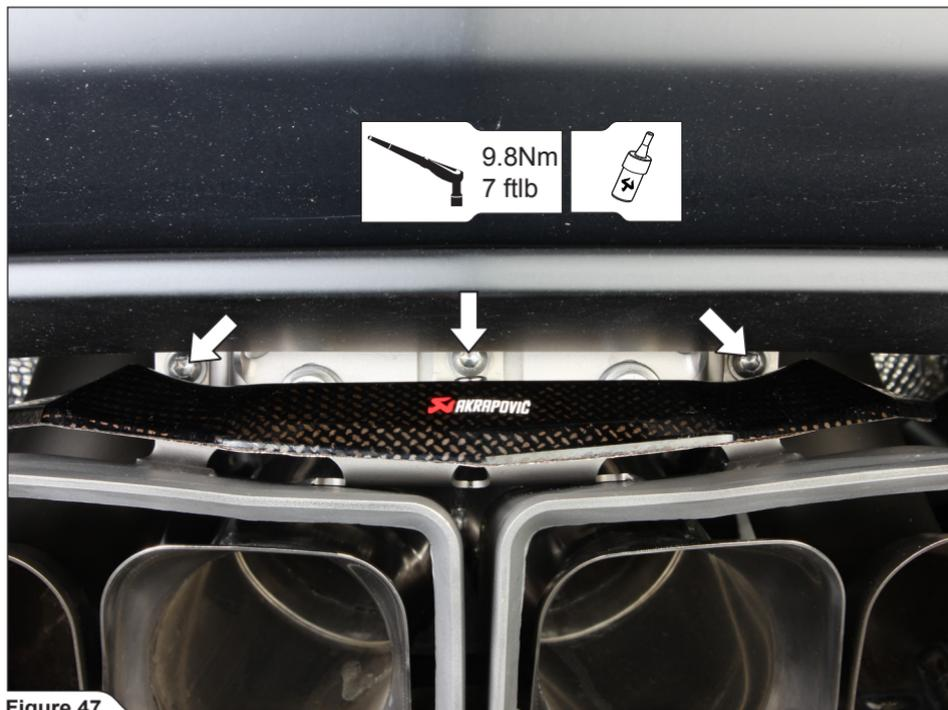

Figure 47
5. Reinstall the carbon fiber heat shield (Figure 47).